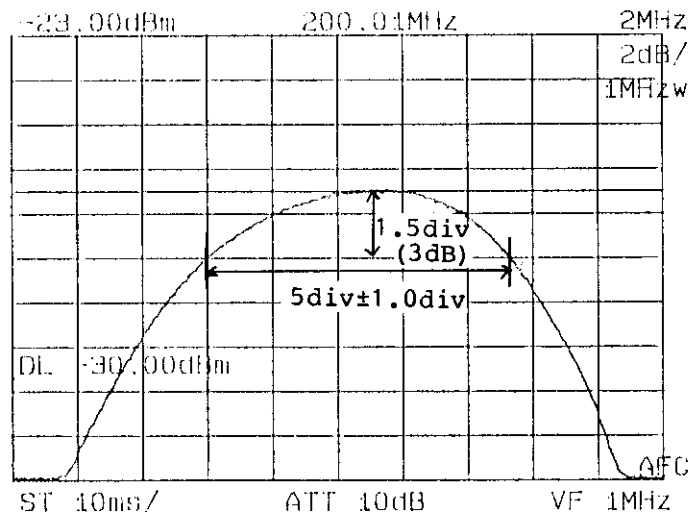

Figure 11-13 Resolution Bandwidth Accuracy Test
- ③ Set the span to 2 MHz. If the signal peak moves from the center of the display screen, center it again by turning the TUNING dial.
- ④ Set the resolution bandwidth to 1 MHz.
- ⑤ Turning the spectrum analyzer AMPTD CAL control, adjust the signal peak to be 1.5 divisions (3 dB) above the horizontal axis in the center of the display screen. (See Figure 11-13.) Then, measure the width of the two points on the horizontal axis traversed by the signal. This width is taken as the 3 dB bandwidth.